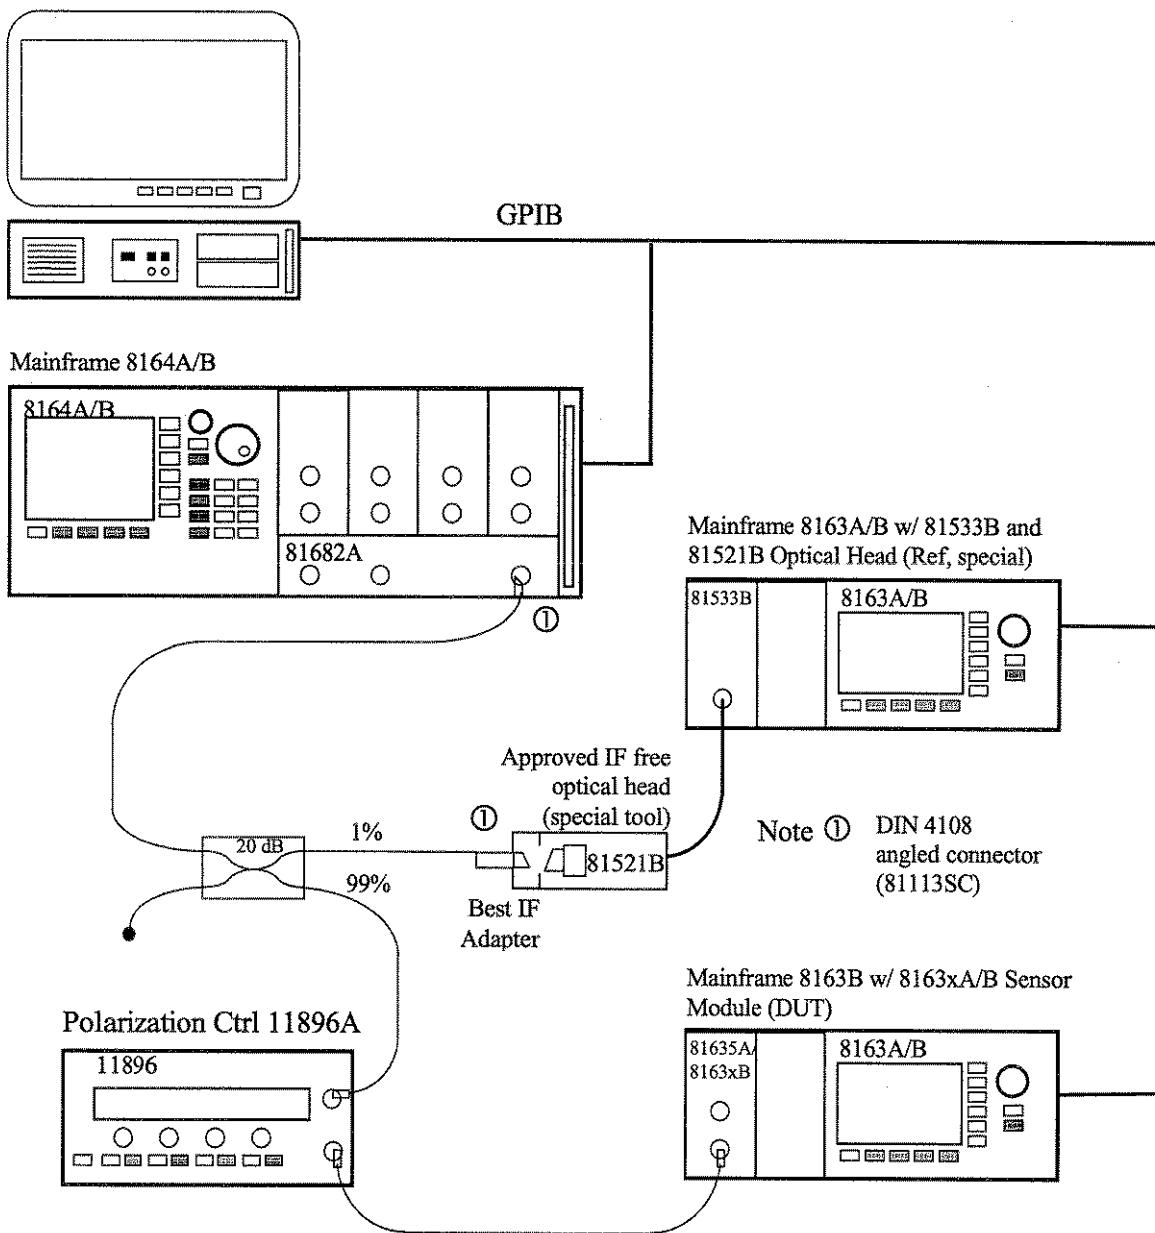

Figure 8 Measurement Setup for PDL Test
**9 Disconnect the 81610CC Reference Cable from the setup and connect a 81113SC user cable to the Return Loss Module and leave the other end open as shown in Figure 8.**